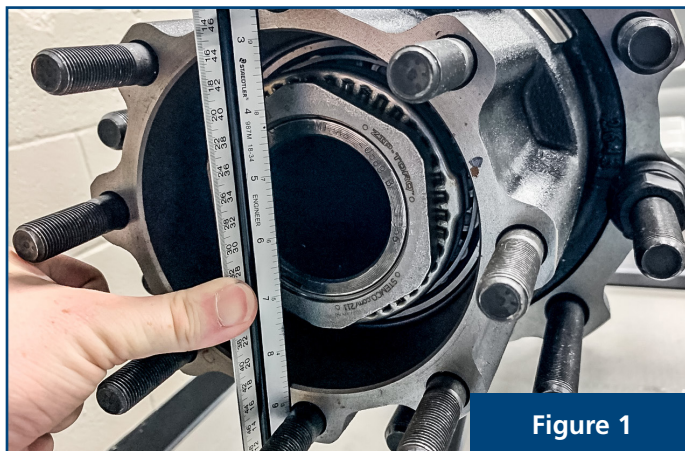

Figure 1
1. Place a straight edge across the hub face (See Figure 1)